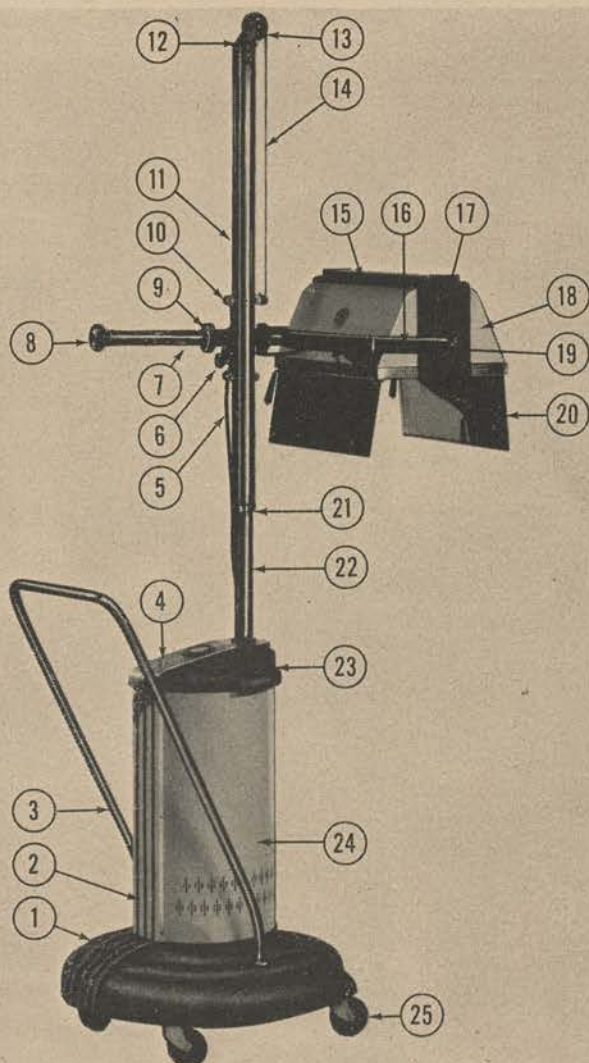

Figure 2. Item 7126005 lamp, therapeutic, mercury arc, air-cooled, mobile, complete, 110-volt, 60-cycle; Burdick model.
(1) Base upright assembly.
(2) Burner housing assembly.
(3) Burner assembly.
c. Assembling the Burdick model. (1) Screw the casters into the sockets on the bottom of the cast iron base, 7R03608 (fig. 2), and set on the floor.
(2) Remove the two wing nuts from the screws on the bottom of the base housing, 7R03612 (fig. 2).
(3) Place the base housing on the cast iron base in such a manner as to allow the two screws from which the wing nuts were removed to go through the two holes provided for this purpose in the cast iron base.
(4) Replace the two wing nuts on the screws from which they were removed on the bottom side of the cast iron base. Draw the wing nuts up tight.
(5) Lock the cast iron carriage, 7R03656 (fig. 2), of the upright column assembly on the upright column, 7R03640 (fig. 2), by tightening the vertical track locking knob, 7R03668 (fig. 2).
(6) Raise the upright column assembly so that the bottom end may be placed in the hole provided in the cast iron cover plate, 7R03616
(fig. 2). Slide the upright column down until it rests on the cast iron base.
(7) Tighten the setscrew on under side of the cast iron base against the lower end of the upright column.
(8) Remove the supporting arm plastic knob, 7R03672 (fig. 2), of the burner housing assembly by loosening the setscrew in the knob and unscrewing the knob. Insert the supporting arm in the ball-bearing roller track of the cast iron carriage, 7R03656 (fig. 2). The "Burdick"
(9) Remove the hexagon nut, flat washer, and spacer bushing from the other end of the supporting arm, 7R03672 (fig. 2). Attach burner housing assembly to supporting arm by placing the end of the supporting arm through the center of the fork, 7R03678 (fig. 2); replace spacer bushing, washer, and hexagon nut. Draw up hexagon nut tightly.
(10) To place the burner in the burner housing, proceed as follows: